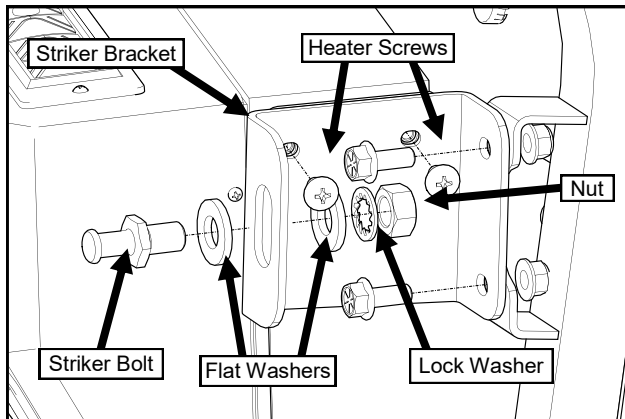

Fig. 18.4 (Vinyl hinged doors only: Striker Bracket on right side)
18.4 **Vinyl hinged doors only:** Per Figure 18.4, place the bent Striker Bracket against the right side A-pillar striker mount and heater bracket. Secure the striker bracket to the A-pillar mount with 5/16 x 3/4" bolts and nuts. Install the striker hardware, note the use of a second washer in place of a finger guard. Secure the bracket to the heater bracket and into the heater with the upper heater bolts from step 17.2.